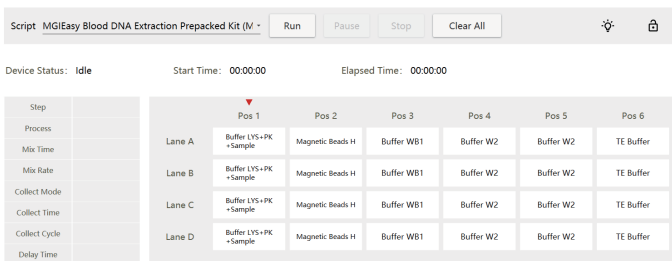

Figure 2-2 Operation Deck Layout
7. In the [**Workflow**] interface, Click **Script**, select **MGI Nucleic Acid Extraction\_V1.2**. Follow the on-screen instructions to place the consumables and reagents, as shown in following figure 2-2. Confirm the placement and close the door.